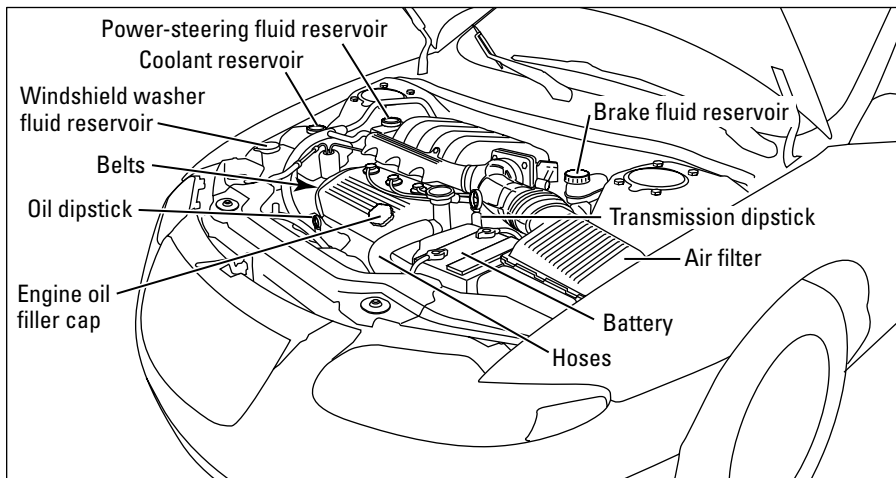

Figure 2-1: Where to find parts under the hood.
Once a month, in the morning before you've driven your vehicle, arm yourself with a clean, lint-free rag and the household tools mentioned in this chapter, and open the hood of your vehicle. (If you've never done that, flip back to Chapter 1.) Then check the items in the sections that follow. The checkup may take a bit longer the first time you do it, but after that you should be able to whip through this check in about 15 minutes. As a matter of fact, you may want to grab this book and your **owner's manual** (if you have one), go out to your vehicle, and locate each part while you read. Figure 2-1 helps you find each part. Make a game of it. Enjoy!
- ✓ **Rather than open the cap on the radiator, just check to see whether the liquid reaches the “Full” line on the side of the coolant reservoir.** (That's the plastic bottle connected to the radiator that holds an extra supply of liquid, as shown in Figure 2-1. It's part of the **coolant recovery system**.) If the liquid doesn't reach the “Full” line, open the bottle and add a 50/50 mix of water and coolant until it does.